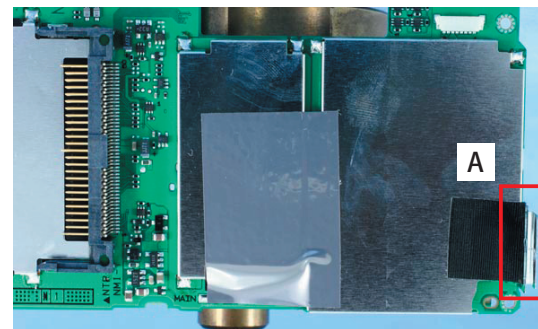

Fig. 082
- (1) Check whether two pieces of insulating tape are attached firmly in the positions shown in Fig. 082.
- (2) While being careful not to distort Part A in Fig. 082, release the FPC and attach four screws so that the PCB does not move.